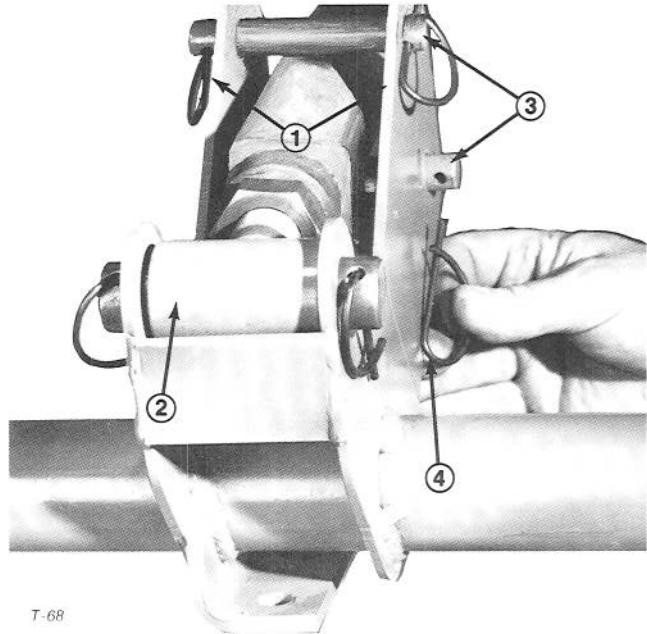

Figure 7
7. Position brackets on left side of hitch adapter on each side of push arm and push pin, align holes and install pin through bracket and push pin (Fig. 7). Install pins through center holes of top and lower holes in brackets alongside push arm (Fig. 7). Secure all pins with spring pins (Fig. 7).